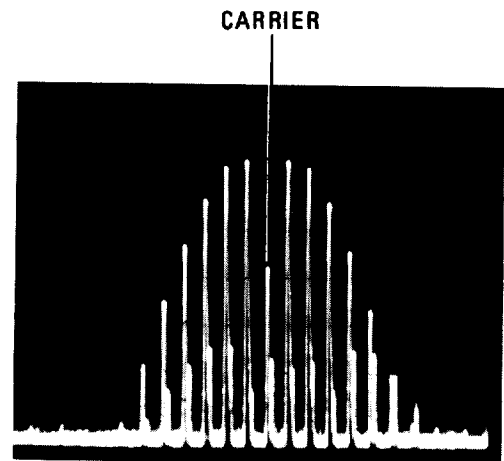

Figure 4-19. Spectrum Analyzer Display of First Carrier-Null with 2.1 MHz Modulation Frequency
- m. Set function generator frequency to 2.1 MHz and amplitude to minimum. Increase function generator amplitude to produce first carrier null as shown in Figure 4-19. This point is  $\pm 5$  MHz deviation.